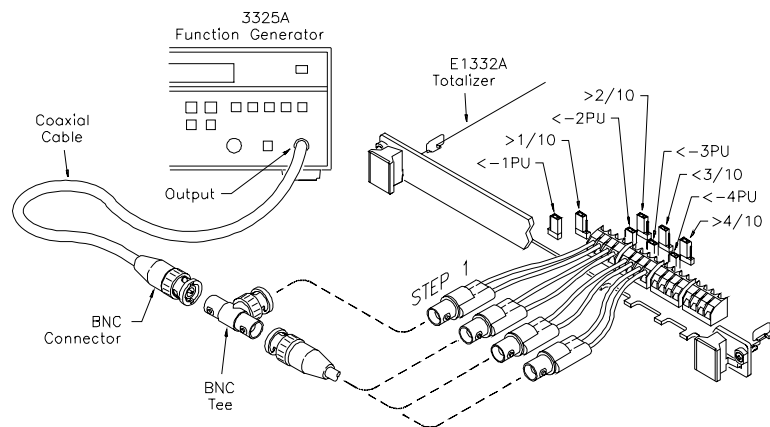

Figure 4-3. Up/Down Counting Test Setup
1. Connect the equipment as shown in Figure 4-3 (begin with only channel 1 connected to the source).